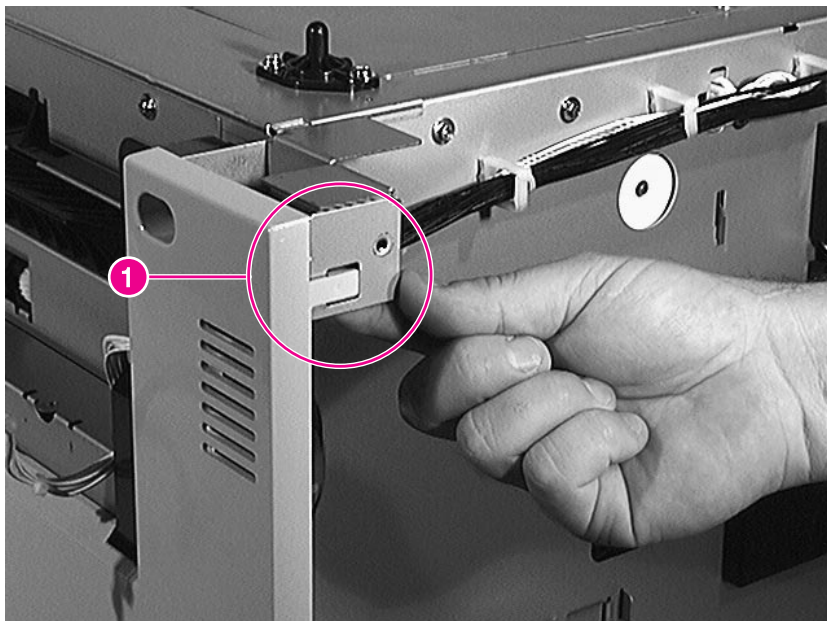

Figure 6-89 **Right Cover (3 of 3)**
- 4 Release the tab from the right side of the Right Cover as shown in figure 6-89 (callout 1).